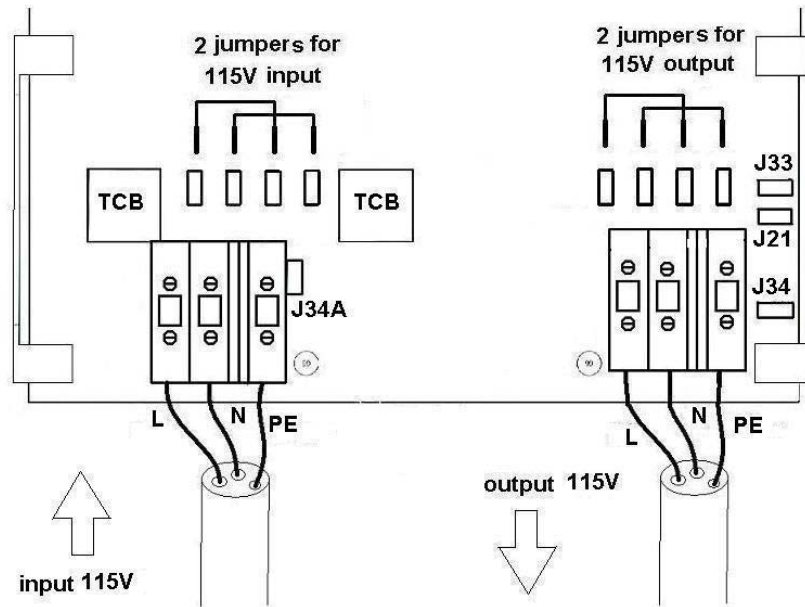

Figure 3: Jumper settings for 115/120 V input and/or output
2.2.2. For 110/120 V input and/or output, connect the push-on jumpers as shown in fig 3.